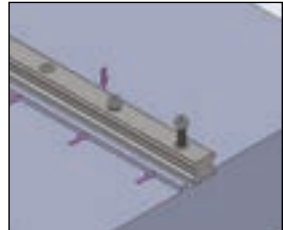

Fig 1.11.8 Checking Bolt Play
**CAUTION :** Use clean bolts to fasten the Linear Guide. When inserting bolts into the Linear Guide rail mounting holes, make sure the threads of the bolt and nut are properly aligned. (Fig 1.11.8)